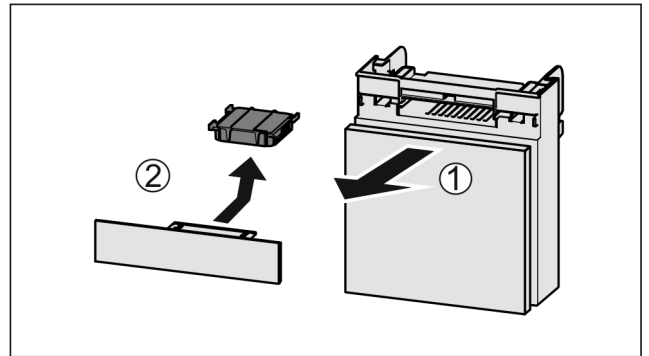

Fig. 166
- Pull out the compartment Fig. 166 (1).
- Remove the carbon filter Fig. 166 (2).